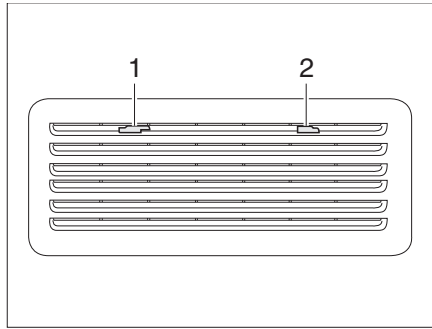

Fig. 320 Refrigerator ventilation grill (Thetford)
- Move the locking device (Fig. 320,1) to the middle.